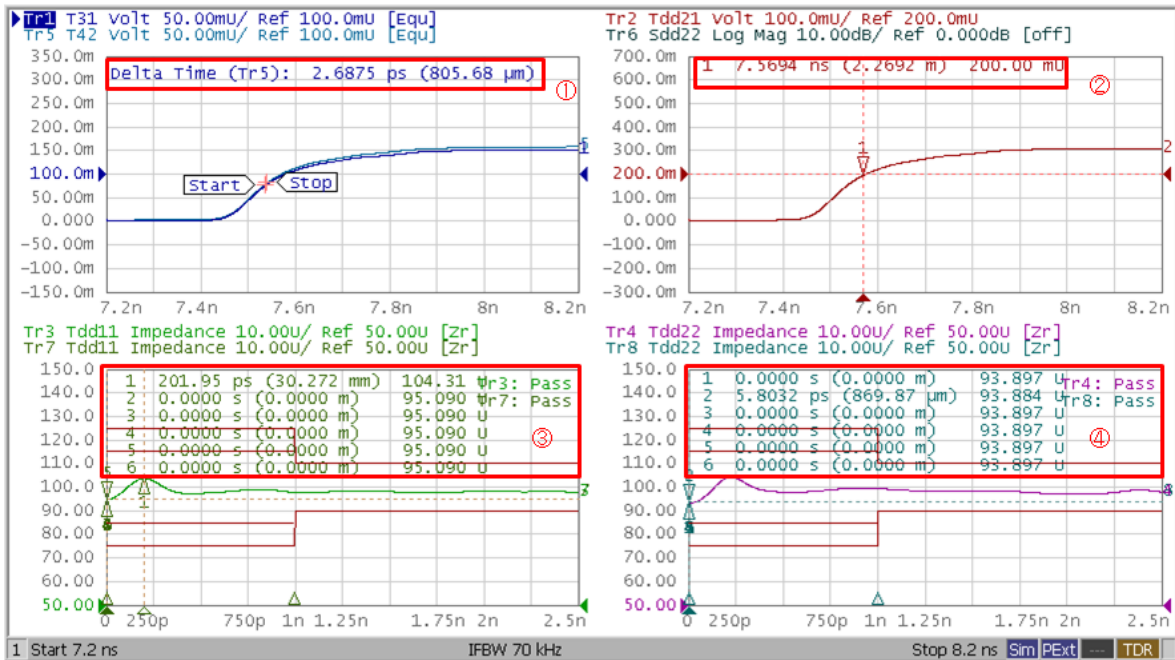

Figure 5-7 Time Domain Measurement Example
Read the delta time between Trace1 and Trace5 (item1 in Figure 5-7). Check if the value is within the limit below.
11. Record the Marker 1 value on trace 2 (item2 in Figure 5-7).
14. Record the Marker 1 value on trace 2 (item2 in Figure 5-7).
17. Record the Marker 1 value on trace 2 (item2 in Figure 5-7).
20. Record the Marker 1 value on trace 2 (item2 in Figure 5-7).
23. Record the Marker 1 value on trace 2 (item2 in Figure 5-7).